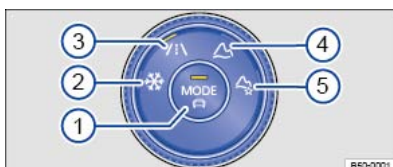

Fig. 129 In the lower section of the centre console: control for the 4MOTION Active Control in vehicles with all-wheel drive.
Key to ⇒ **Fig. 129**:
- Turn the control for the 4MOTION Active Control until the LED next to the desired driving profile lights up ⇒ **Fig. 129**.
- Press the  driving profile selection button or turn the control for 4MOTION Active Control until the LED next to the **Onroad** driving profile ⇒ *Fig. 129*  lights up.
- If necessary, turn the control ⇒ *Fig. 129* for the 4MOTION Active Control until the LED next to the **Off-road Individual** driving profile ⇒ *Fig. 129*  lights up.
- If the **Off-road Individual** driving profile is already selected, press the MODE button on the control ⇒ *Fig. 129*.